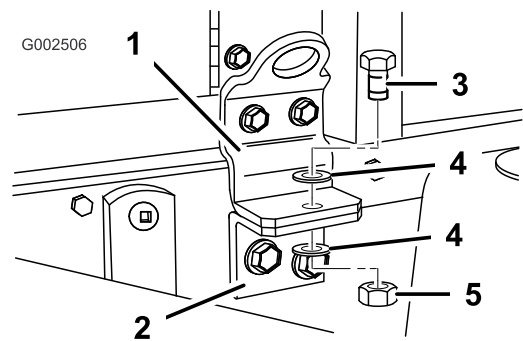

Figure 23
15. Secure the tank skid assembly to the frame with a bolt (1/2 x 1-1/2 inches), two washers (1/2 inch), and a locknut (1/2 inch) as shown in Figure 23.